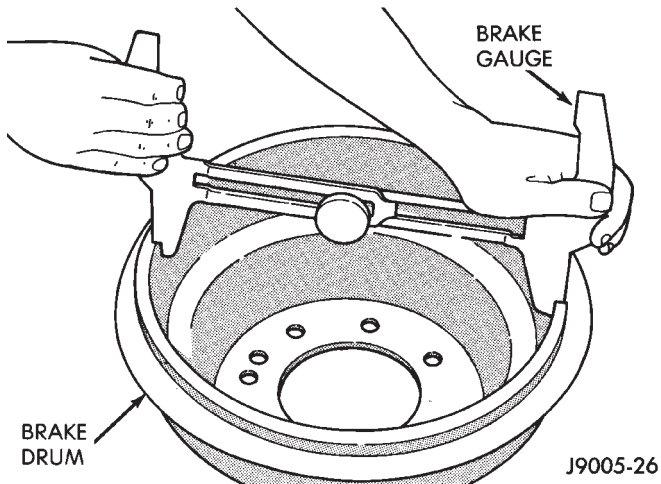

Fig. 60 Adjusting Gauge On Drum
- (1) Be sure parking brakes are fully released.
- (2) Raise rear of vehicle and remove wheels and brake drums.
- (3) Verify that left and right automatic adjuster levers and cables are properly connected.
- (4) Insert brake gauge in drum. Expand gauge until gauge inner legs contact drum braking surface. Then lock gauge in position (Fig. 60).